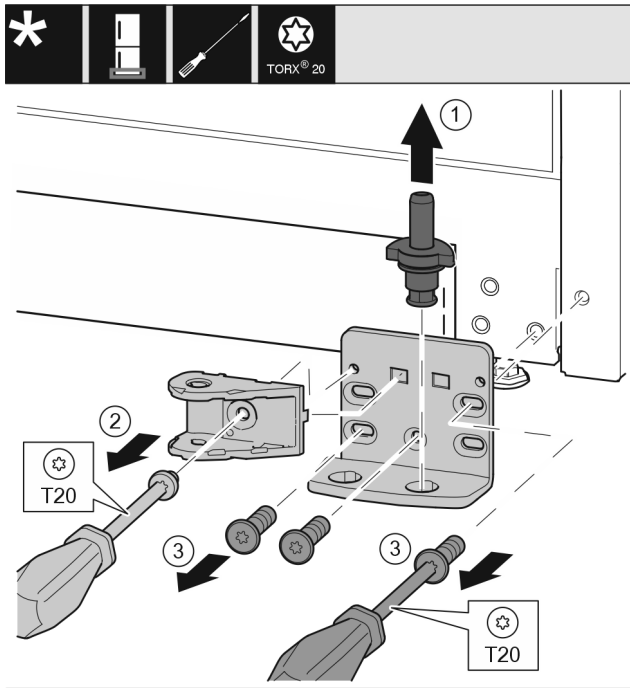

Fig. 30
- ▶ Pull the bearing bolt Fig. 30 (1) out upwards completely.
- ▶ Use screwdriver to unscrew the screw Fig. 30 (2) and remove the closing damper connection.
- ▶ Use screwdriver to unscrew the screws Fig. 30 (3) and remove the swap bearing block.